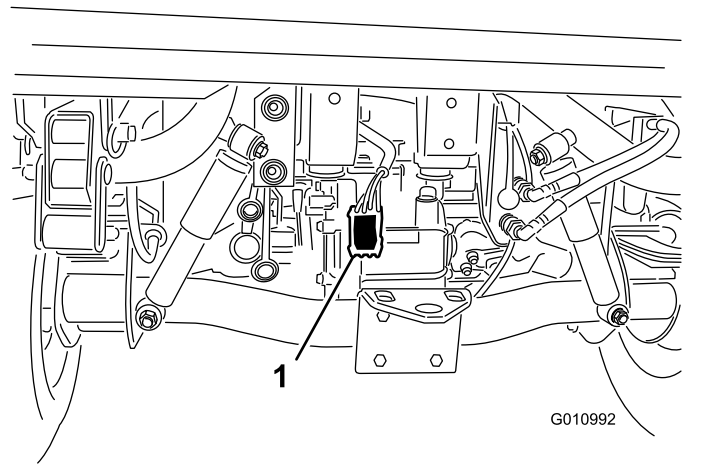

Figure 8
5. Route the wire harness alongside the main vehicle wire harness to the rear of the vehicle (Figure 8).